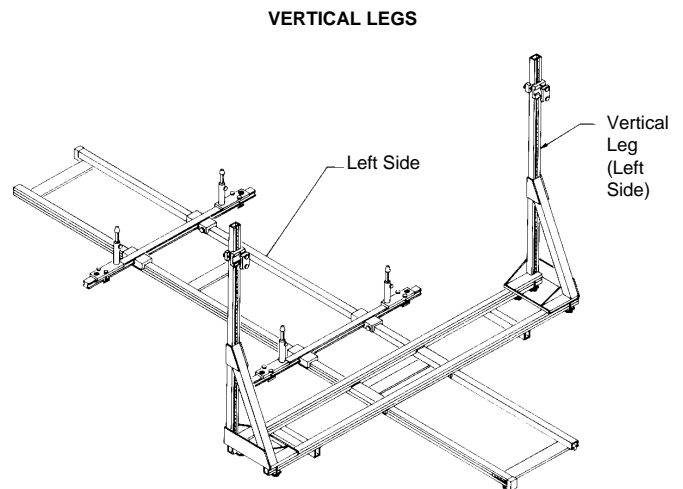

Figure 7
14. Slide vertical legs onto secondary ladder and slide to the 'stops'. Tighten vertical legs to secondary ladder. (See Figure 7.)